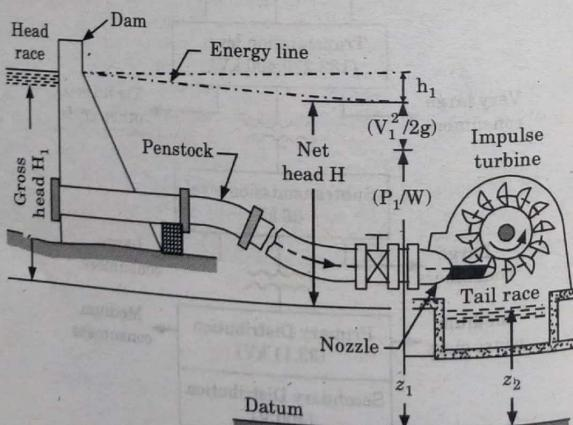

Fig. 1.3.1. General layout of a hydro-electric power plant.
1. Fig. 1.3.1 shows a general layout of a hydro-electric plant in which an artificial storage reservoir formed by constructing dam has been shown.